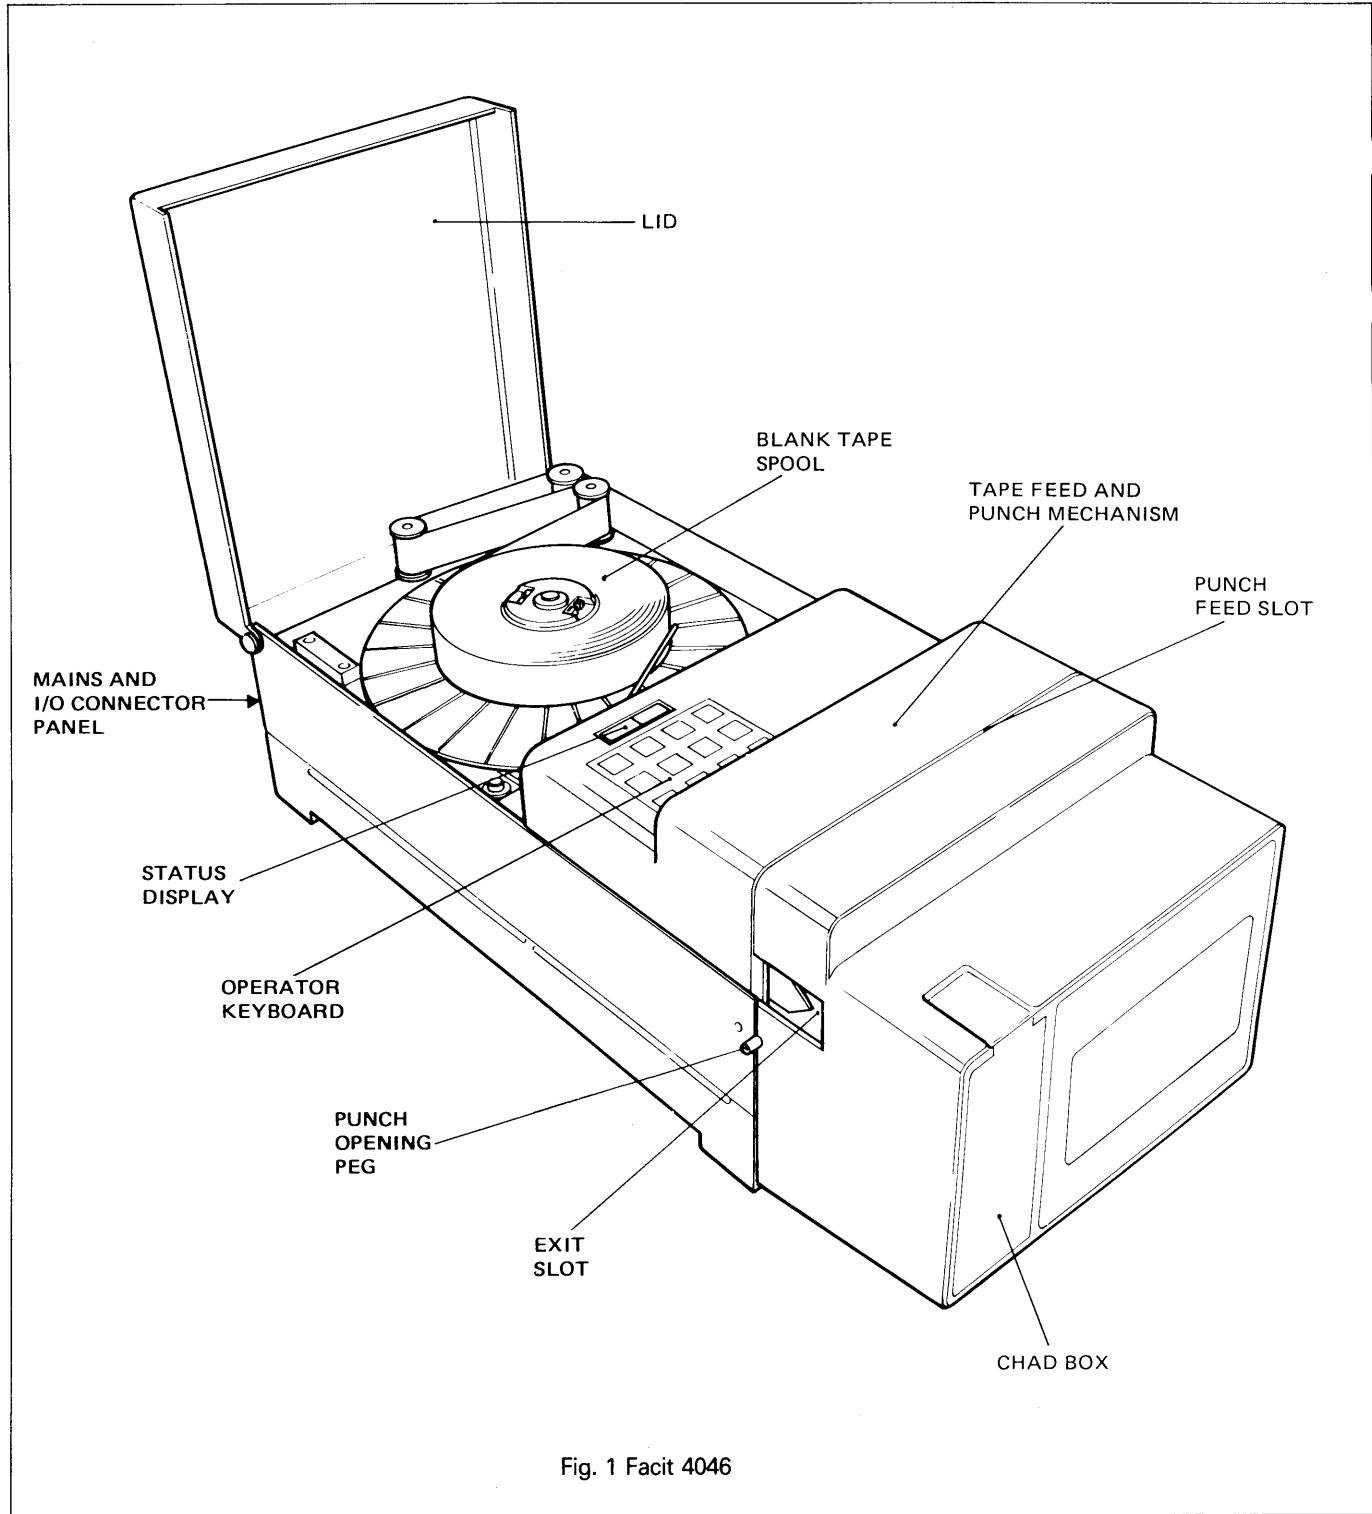
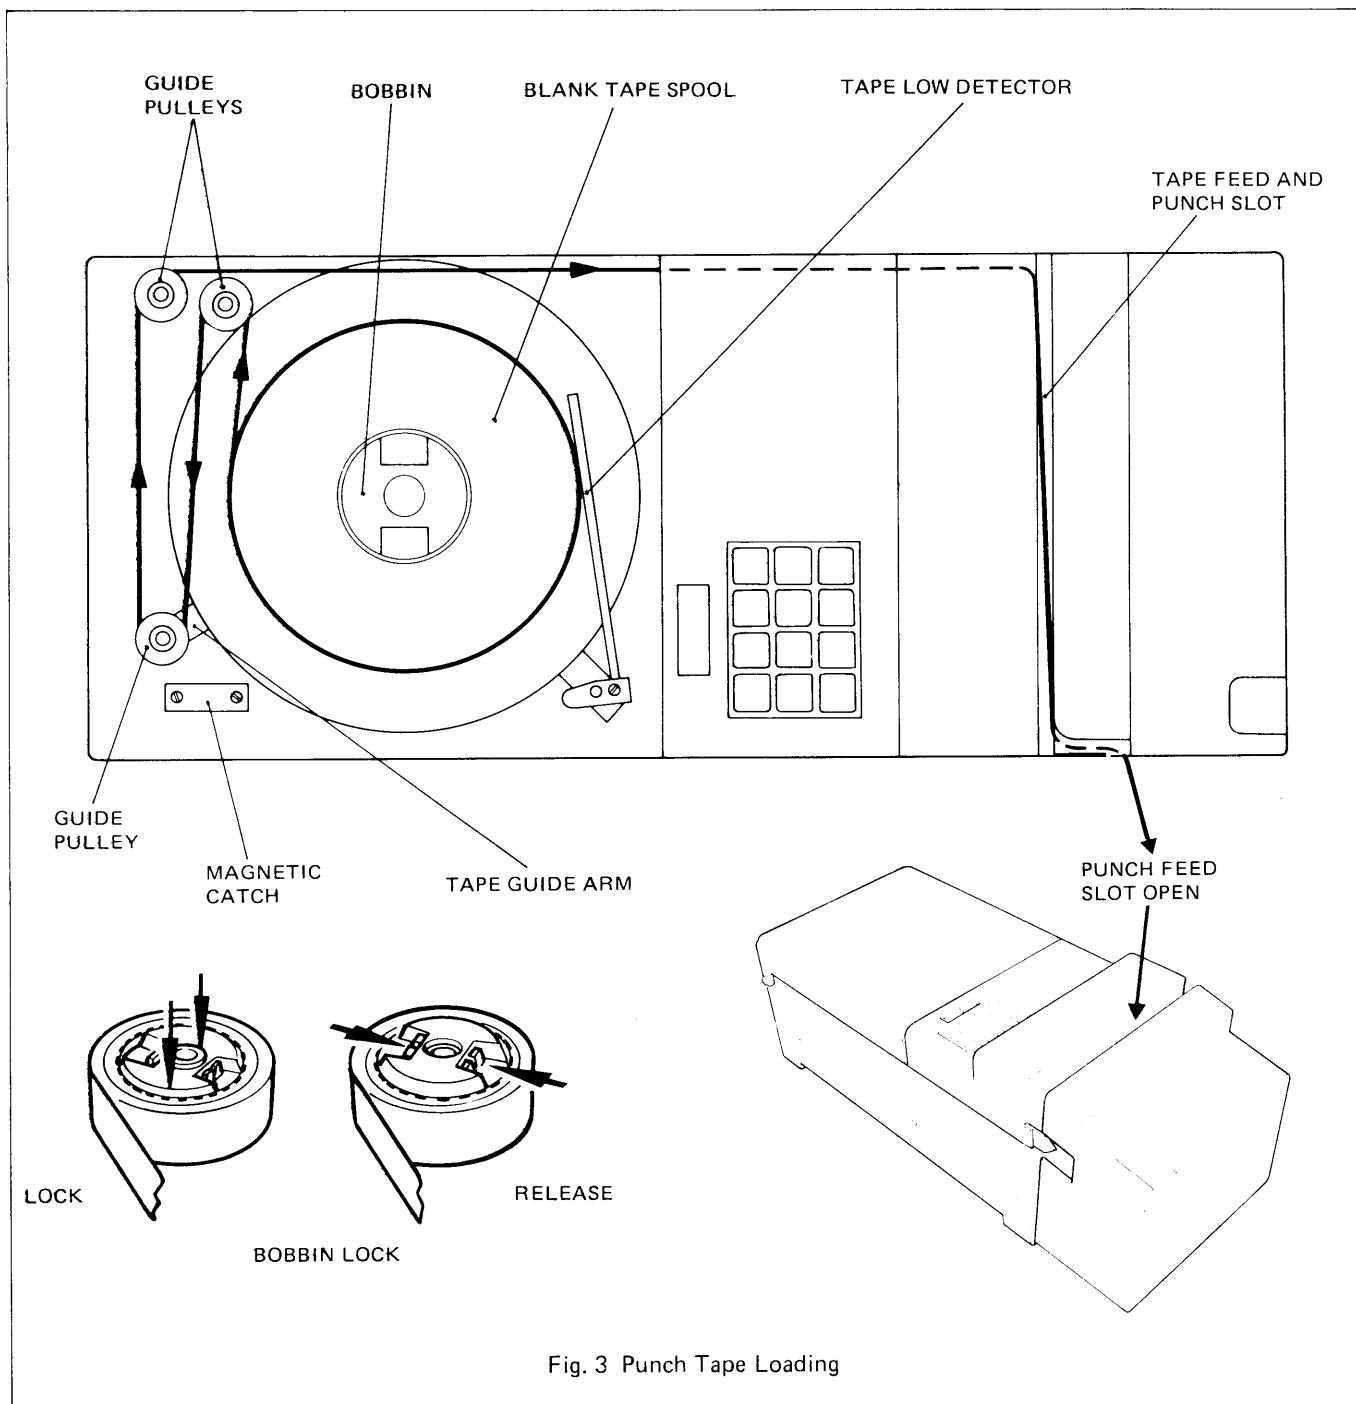

Fig. 1 Facit 4046
Fig. 3 Punch Tape Loading
The Facit 4046 is shown in fig. 1. The blank tape is contained on a standard spool at the top rear of the unit, with the tape feed and punch mechanism housed under a cover towards the front of the machine. A semi-transparent lid covers the tape spool during normal operation, and the amount of tape left on the spool can easily be seen without raising the lid.
The tape path through the punch is shown in fig. 3. The blank tape leaves the spool and passes around a pulley on the tape guide arm. The guide arm applies a progressively acting brake which operates on the tape bobbin. This operates to ensure that tape fed through the punch is maintained at a constant tension to ensure accuracy and consistency of punching.
With mains power switched OFF, load tape onto the punch tape holder as follows (see fig. 3).
wards by hand as far as possible (see fig. 3).
- (4) Push upwards the two punch opening pegs (located one at each side of the punch housing — see figs. 1 and 2), and pull forward the punch assembly to open the tape feed and punch slot (see fig. 3).
- (5) Lead the tape around the guide pulleys and drop it into the tape feed and punch slot.
- (6) Push back the punch assembly to close the tape feed and punch slot.
- (7) Release the tape guide arm from the magnetic catch.
- (8) Switch the power ON and depress the [FEED] key until the tape is taut, and feeding correctly from the spool.